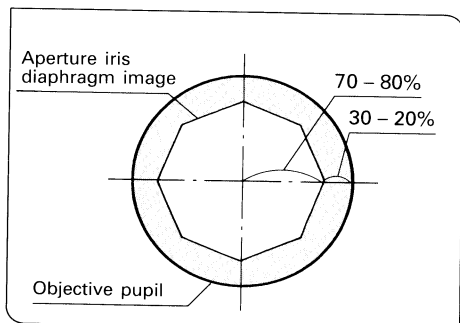
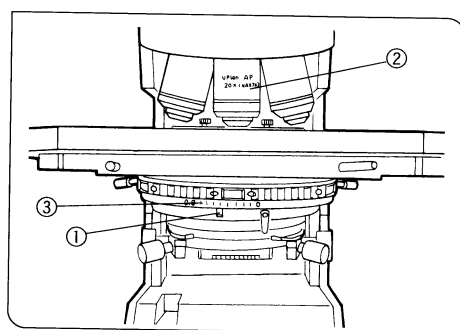

Fig. 44
Fig. 45
- Since the contrast of microscope specimens is ordinarily low, setting the condenser aperture iris diaphragm to 70 - 80% of the N.A. of the objective in use is usually recommended. When necessary, adjust the ratio by removing the eyepiece and looking into the eyepiece sleeve while adjusting the aperture iris diaphragm lever ① until the image shown in Fig. 44 is seen. (Fig. 45)
③ **Using the Numerical Aperture Scale**